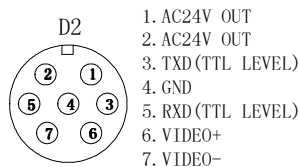

Figure 5
2. **Connection of P/T and outdoor housing: when collocate the special decoder for housing, decoder's control signal input、 Power supply(AC24V) and video signal output by air waterproof connector plug (D2) to connctet .** Figure 5 is connect way of D2. Note: Connect P/T's GND with lens decoder's GND. Furthermore P/T's **TXD、 RXD must cross connect with lens decoder's TXD、 RXD**, Otherwise, lens will not to be controlled. Otherwise, Could not to preset lens's position,only just could preset P/T's postision.